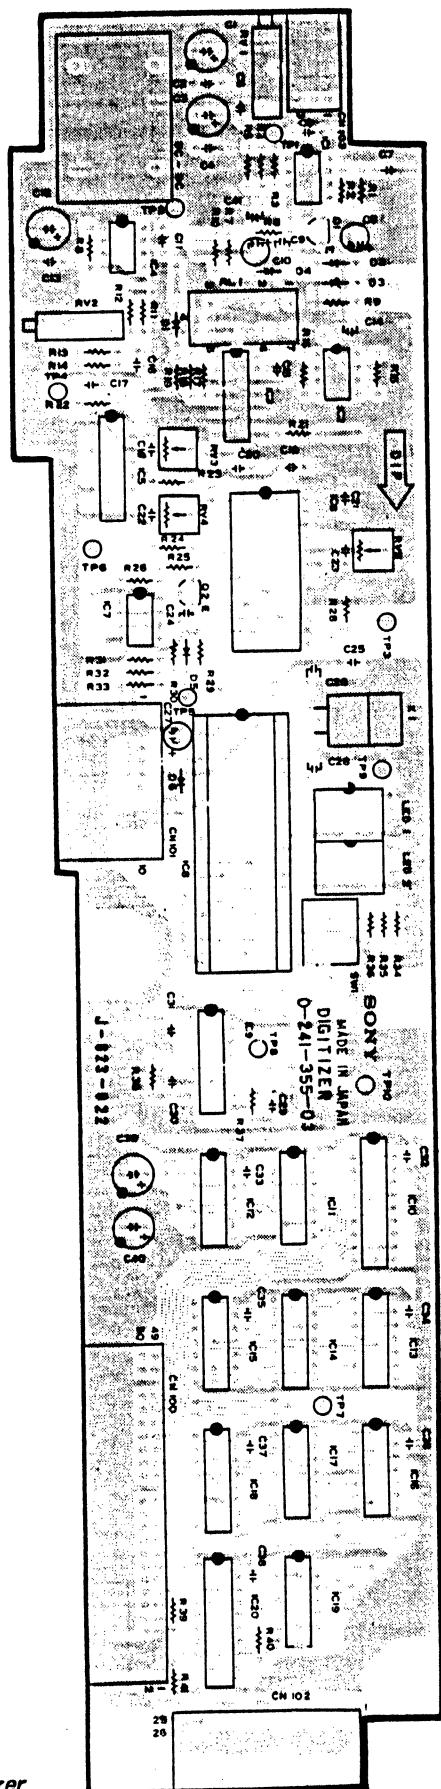

Fig. 2-8 Part Layout on Digitizer
(2) Part Layout and Circuit Diagram on Digitizer. (Refer to Fig. 2-8, 2-9)